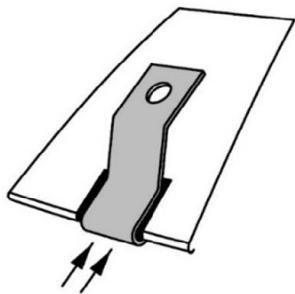

Fig 3
3. Push the (4) metal mounting brackets over the previously installed anti-abrasion pads. (Fig 3)